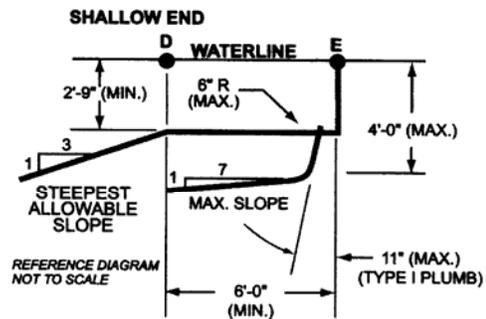

Figure 5- Shallow end depths
11. The top surface of the diving board from the deck end to the tip end shall be level or have an upward slope of 5/8" per foot (16 mm: 305mm) maximum. Elevation difference shall not exceed 6 inches (152mm) from the deck end to the tip of the board. There shall be no downward slope towards the water. The slope shall be measured using a level as shown in Fig. 5.
5.6.1 The slope of the floor from the shallow end wall towards the deep area shall not exceed 1 foot in 7 feet (30 cm: 213 cm) to the point of the first slope change as shown in figure 5.
5.7 Shallow end water depths. Water depth in the shallow area shall be a minimum of 2 feet 9 inches (83.8 cm) except for those locations specified in 6.3 "Shallow End Detail for Beach and Sloping Entries." The water depth at the shallowest point shall not exceed four feet (121.9 cm) as shown in figure 5.